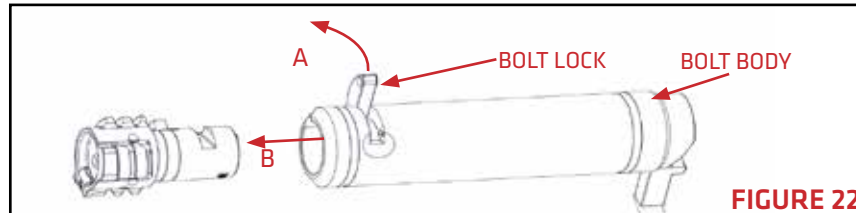

FIGURE 22
2. Rotate the bolt lock to the open position (FIGURE 22-A). Remove the bolt from the bolt body (FIGURE 22-B). Note that the bolt lock is retained in the bolt body and does not need to be removed.